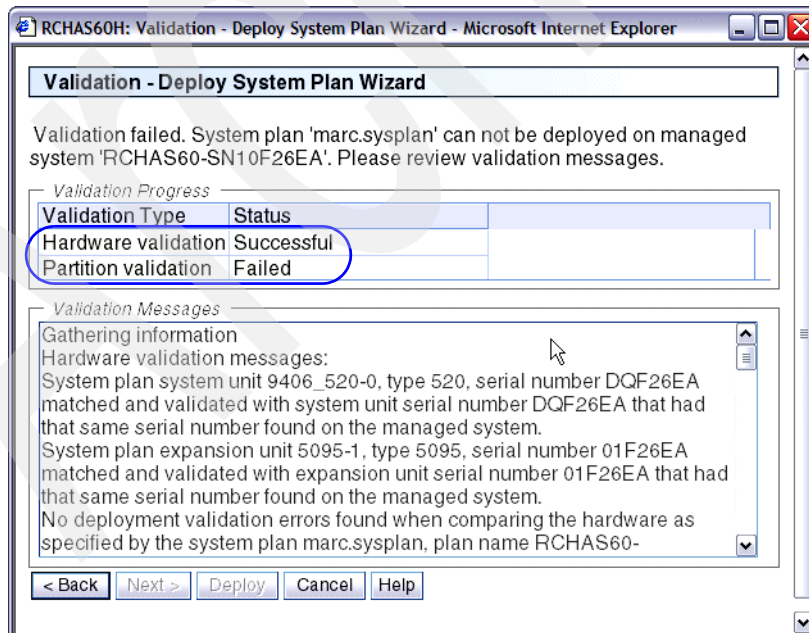

Figure 3-24 Deployment validation summary (partition failed)
- The second example is related to a system plan that fails to deploy due to partition errors. See our example in Figure 3-24, which shows successful validation for the hardware part, and failed validation for the partition validation type.